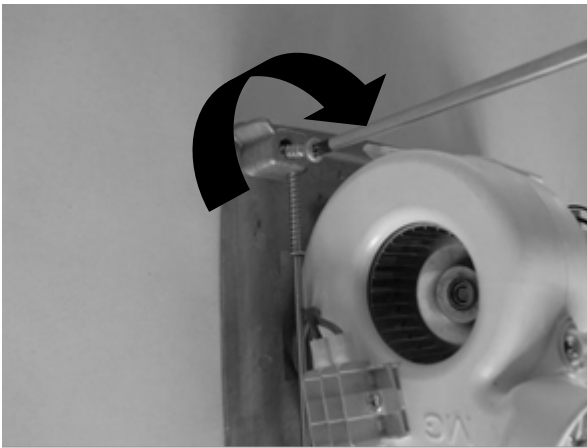

Fig.4
5. Apply the base of hand r to the wall and secure it using the mounting kit provided (fig.4)